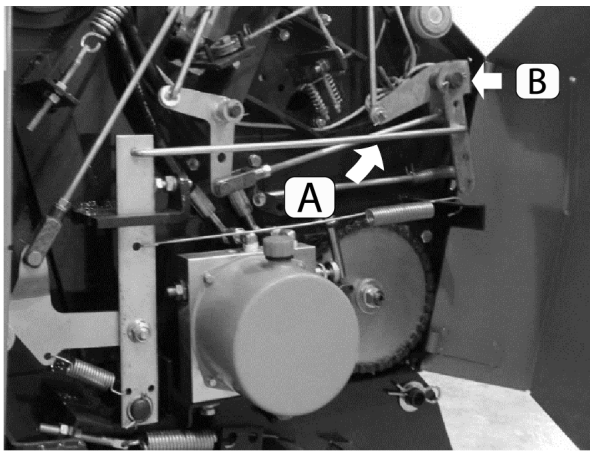

Figure 9 Right side of baler (bale density control)
The density selector rod (Figure 9, A) can be placed in one of four holes (B) to vary bale density. See Section 4.3.4 for details.